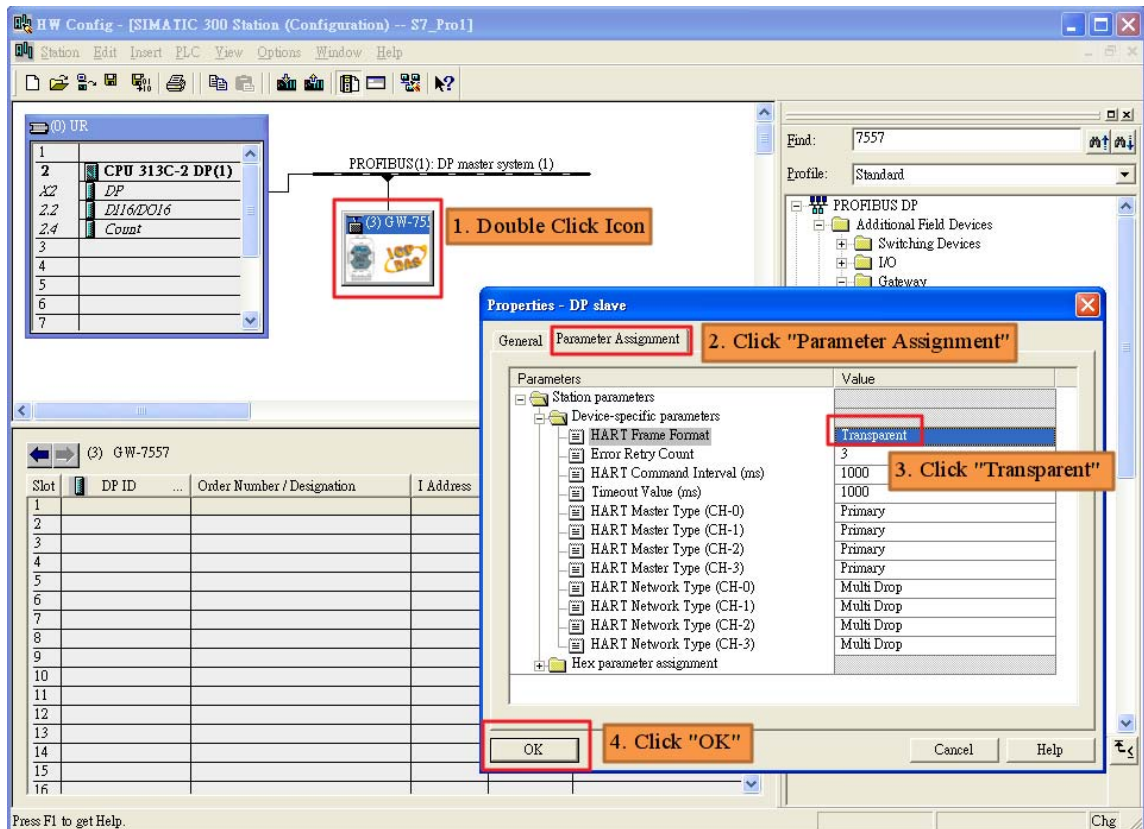

Figure 24 Parameter settings of GW-7557
- Step 3: Set the parameters of the GW-7557. We just need to change “HART Frame Format” to Transparent and the default setting is being used in the other parameters for this example. Please refer to section 4.3 the Configuration of the common parameters. The users can set parameters as shown in the below (*Figure 24*).